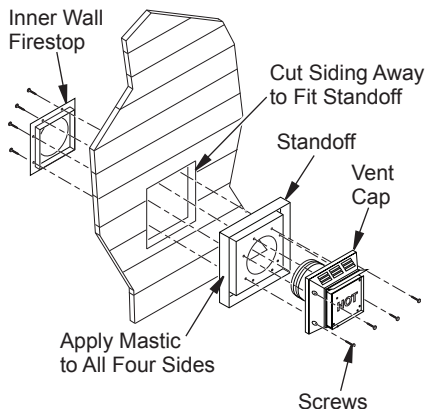

Figure 12 - Installing Siding Standoff (Combustible Exterior Wall)
7. **Connecting Vent Cap with Horizontal Vent Pipe:** Slide wall firestop over vent pipe before connecting horizontal run to vent cap (see Figure 12).